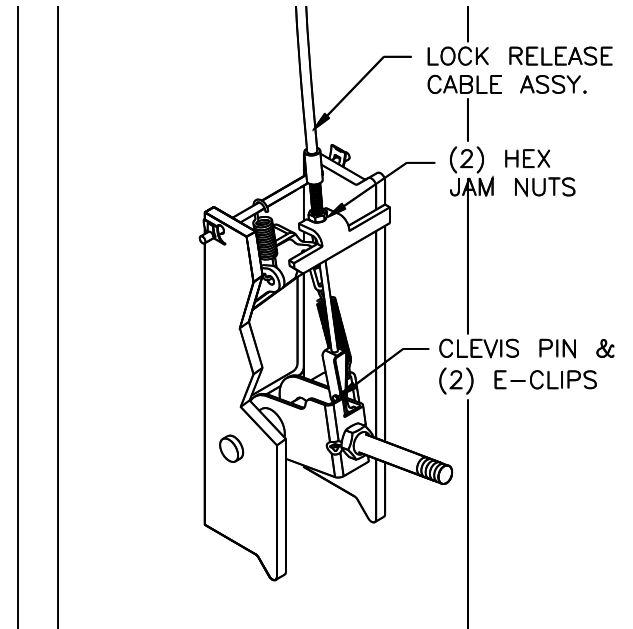

Fig. 18a-Lock Release – Power Side
- 49) Pick one end of the Lock Release Cable Assembly and attach its Threaded Adjustment Sleeve to the Upper Mounting Tab on the power side lock. Insert the adjustment sleeve into the mounting tab notch and position the adjustment sleeve nuts so the bottom of the sleeve sticks out approx. 3/8" from bottom hex jam nut, **Fig. 18a**.
- 50) Connect clevis end of the cable assembly to the center tab of the lever assembly using a clevis pin and (2) E-clips, **Fig. 18a**.